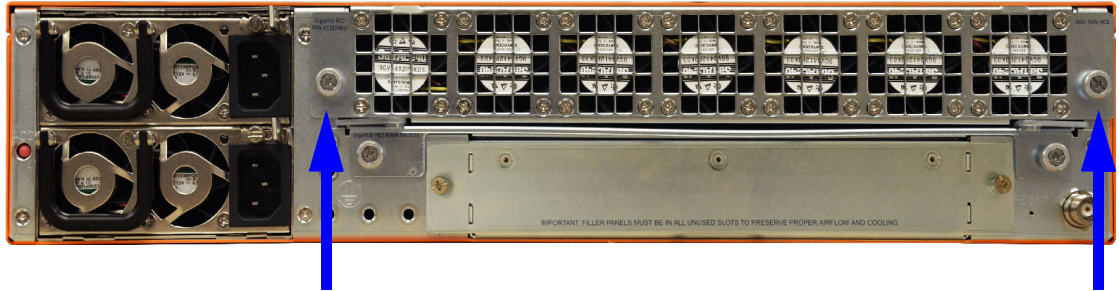

Figure 4-6: Fan Tray Screw Location on GigaVUE-HC2 Rear
1. Locate the two screws on either side of the fan tray as shown in Figure 4-6 on page 61.